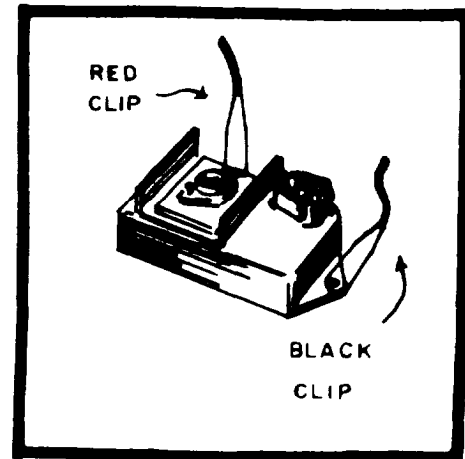

Fig. 87
2. Verifying operation of the Electronic Control Unit - Fig. 87.